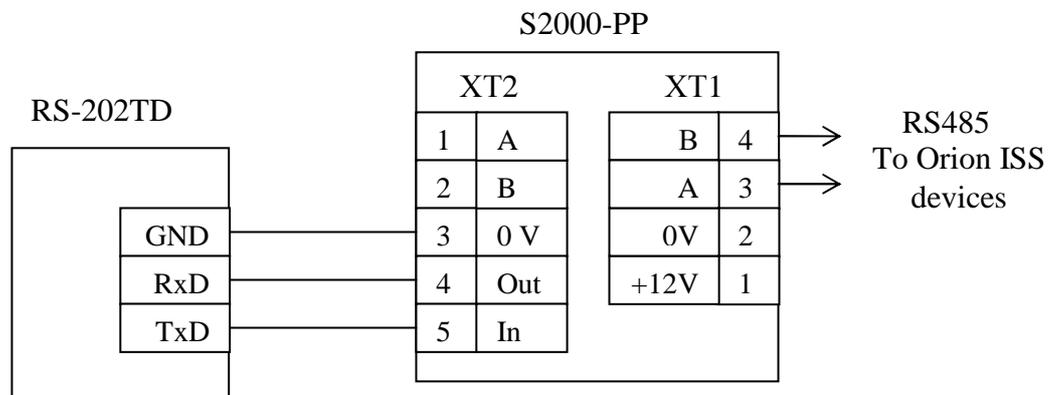

Figure 12. Connecting the Transmitter to the S2000-PP
6.3. Figure 12 shows a schematic for connecting the transmitter to the S2000-PP in accordance with TTL interface scheme.